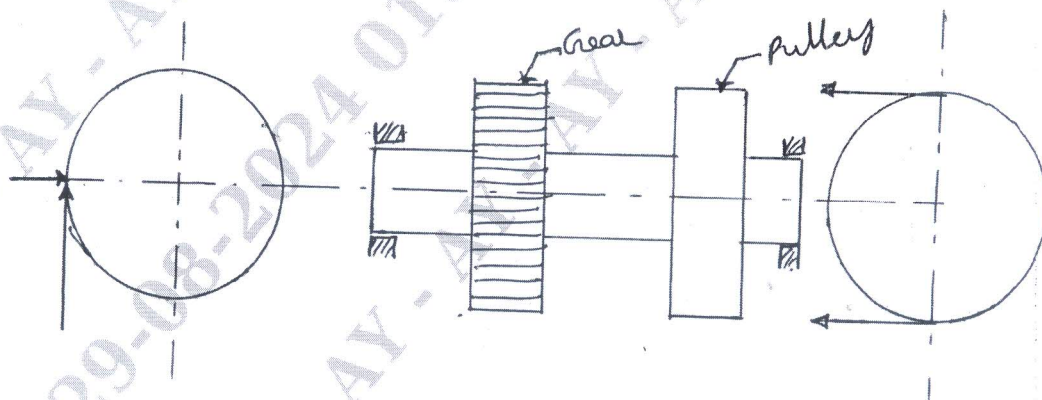

Fig. Q6
- 6 A uniform circular carbon steel shaft made of SAE1025 annealed is mounted on two bearings 850 mm apart as shown in Fig. Q6. The shaft carries a gear A at 200 mm to the right of the left bearing and a pulley B at 250 mm to left of the right bearing. The gear is subjected to horizontal force of 3500 N and a vertical upward force of 9600 N. The pulley is driven by a belt with a tension on tight side to be 6000 N and as the slack to be 2000 N. The shock and fatigue factors for bending and torsion as $K_m = 2$ and $K_t = 1.5$ respectively and weight of pulley to be 1500 N. Design the diameter of the shaft for yield stress taking FOS as 3. Draw neatly the sketch with loading and bending moment. (20 Marks)